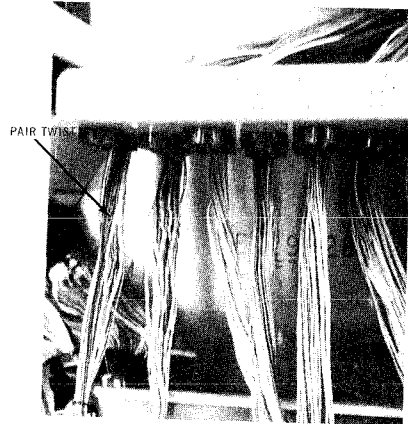

Fig. 7
7.09 Apply from four to six twists in the cable pair as close to the bottom of the wiring bracket as possible. This prevents splitting of the OUT pair. (See Fig. 7).